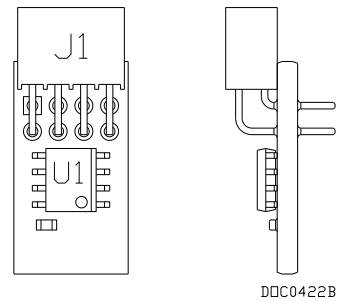
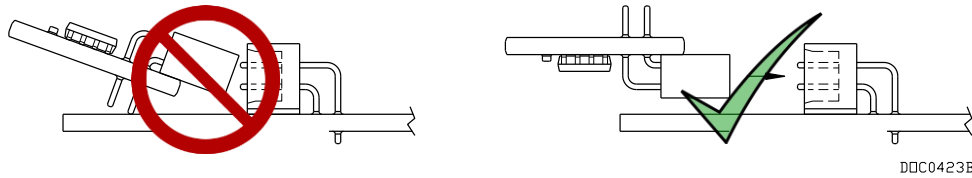

Figure 2-8. License Key
Figure 2-9. License Key Installation
The term “license key” refers to the physical piece of hardware (see *Figure 2-8* and *Figure 2-9*) that can contain up to seven different licenses. Each DL8000 can have none, one, or two installed license keys. If you remove a license key after enabling an application, the firmware disables the task from running. This prevents unauthorized execution of protected applications in a DL8000.
6. Press the license key into the terminal until it is firmly seated (refer to *Figure 2-9*).
5. Remove the license key from the appropriate terminal slot in the CPU (see *Figure 2-9*).